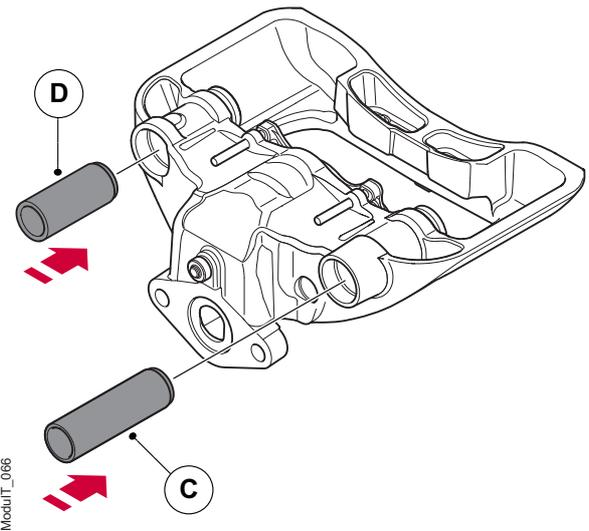

Figure 63. Insert the slide pins.
- By hand, insert the leading slide pin (C) into the bearings and the trailing slide pin (D) into the composite bushing, see figure 63.